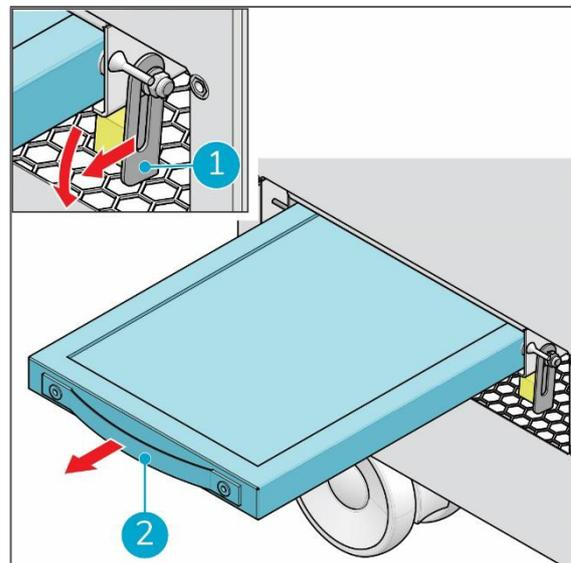

Figure 15
3. Pull the filter lock (Figure 15, pos. 1) forward and push it down.
4. Take the pre-filter by the handle on the front of the filter (Figure 15, pos. 2) and carefully pull it out of the compartment.